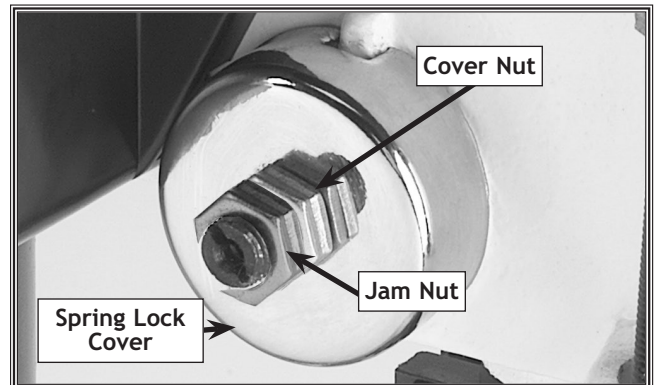

Figure 24. Typical feed shaft return spring assy.
2. Wipe off any oil on the spring lock cover so it will not slip in your fingers when you hold the cover from spinning (see **Figure 24**).